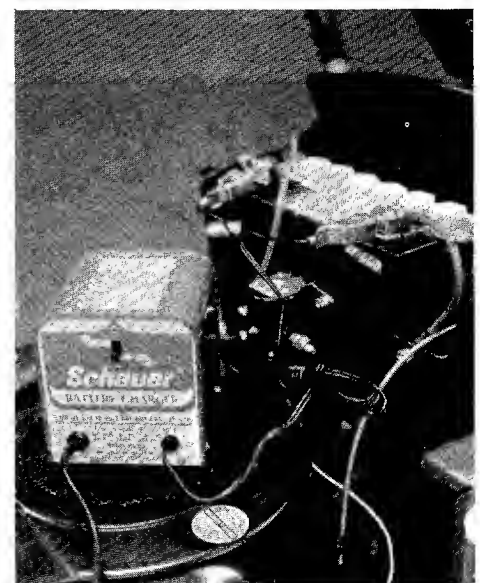

Figure 5
- 3 Connect the battery clips to the battery terminals. The clip with the (+) mark connects to the positive terminal of the battery. The clip with no markings connects to the negative terminal of the battery. (Red clips are + and black clips are —). Be sure that the battery terminals are clean where the charger clips are to be connected. Move the clips back and forth several times to be sure a tight connection is made. (See figure 5.)